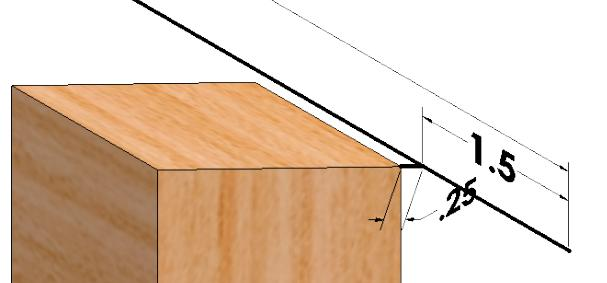

Fig. 8
Step 19. Click Smart Dimension  (S) on the Sketch toolbar.
Step 20. Add 1.5 dimension, Fig. 8. Before adding dimension, you might have to zoom out, use Z key, and drag left endpoint out to left.